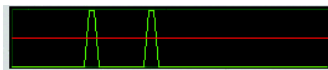

Figure 85. Adequate Sensitivity Level
- Figure 85 shows the position of the red sensitivity indicator at a medium 50% sensitivity setting (default). In this case, a motion event is large enough to cause the green motion indicator to surpass the red sensitivity indicator.